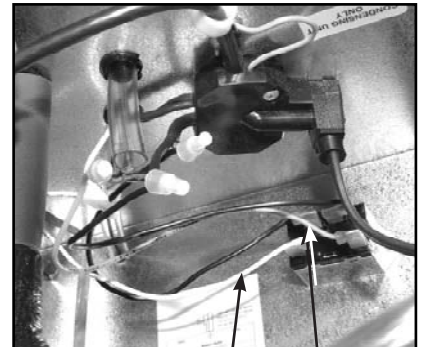

Figure 8
F. Connect both ends of the previously cut ribbed wire with a 14ga loose black wire using a supplied Sta-con. Connect other end of wire to the normally open contacts of the relay. (See figure 8 & 11 for the next 3 steps).